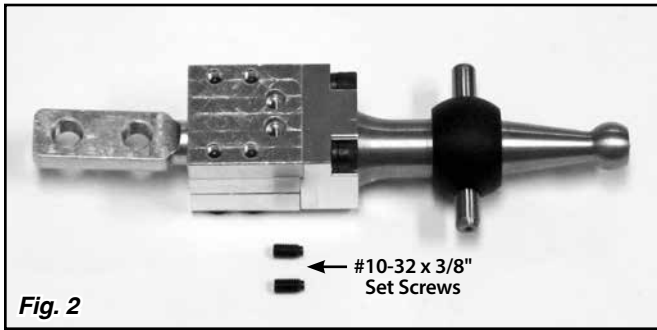
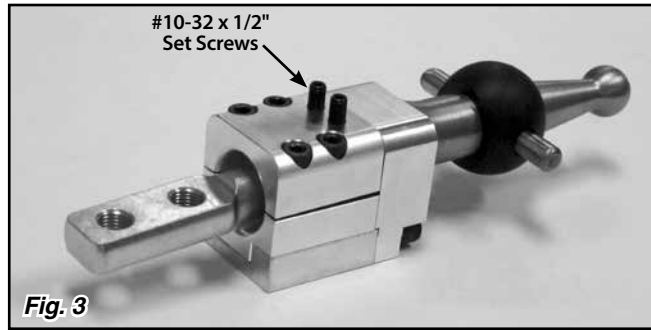

Fig. 2
Fig. 3
**Step 1:** Using a 3/32" Allen wrench, remove both of the #10-32 x 3/8" set screws from the holes in the back plate, and set them aside. Then, back out the #10-32 x 1/2" set screws in the main cap so that they protrude about 3/16" - 1/4", but do not remove. **Fig. 2 and Fig. 3**